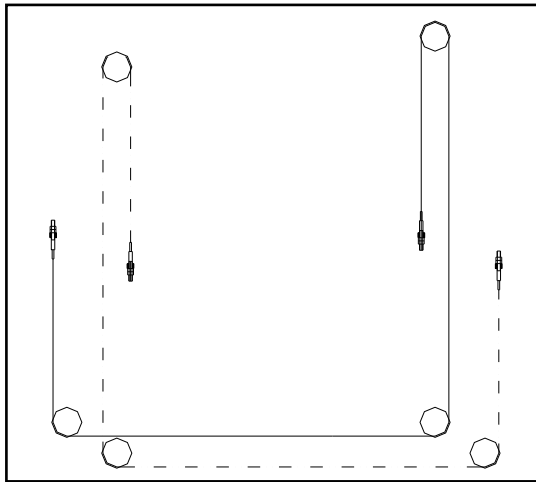

Fig. 29
- ◆ Install the balance cable according to Fig. 29. The cable also can be crossed from the hole on the board before the fixing of both columns.